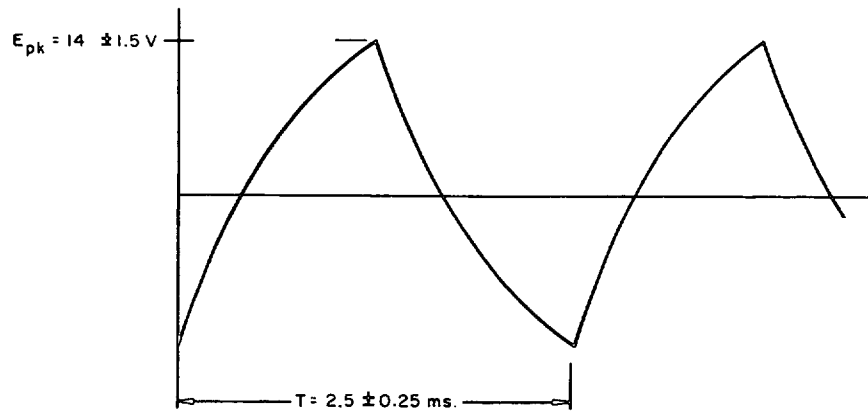

FIGURE 5-1 FLUX VALVE DRIVE WAVEFORM
- a) Pin Z to \bar{t} (-) (Fig. 5-1) 14 +/-1.5Vpk (scope)